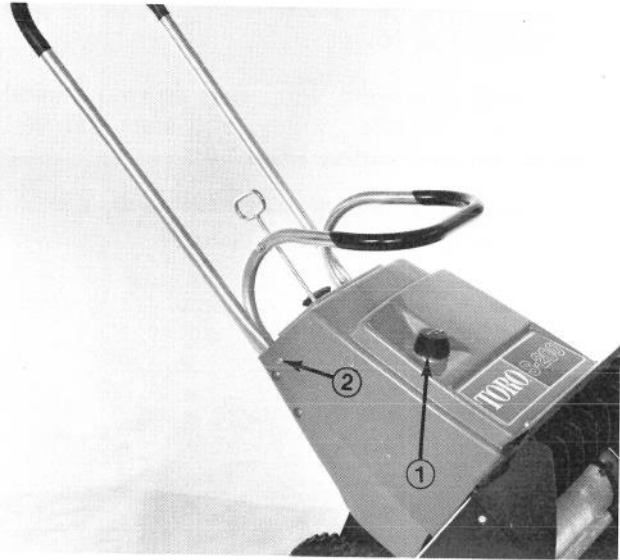

Figure 21
2. Remove cap from snowthrower fuel tank (Fig. 21).
3. Remove two self tapping screws holding sides of upper shroud; then remove shroud (Fig. 21). Reinstall cap on snowthrower fuel tank.
8. Remove cap from snowthrower fuel tank and set upper shroud in place (Fig. 21). Reinstall cap on fuel tank.
10. Insert front panel into grooves of upper shroud. Secure sides of upper shroud with two  $\frac{1}{2}$  inch (12.7 mm) long self tapping screws (Fig. 21).